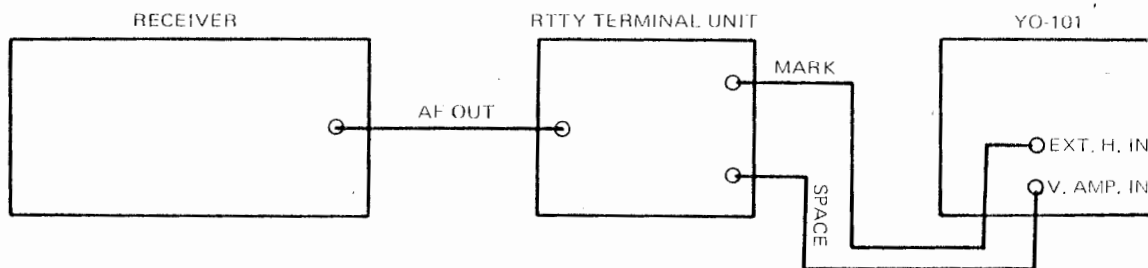

Figure 7
- (1) Connect a shielded cable from the mark terminal of the RTTY terminal unit to the EXT. H. IN (RTTY) jack, and a second cable from the space terminal to the V. AMP IN jack of the Monitor-scope, as illustrated in Figure 7.
- (2) Set the front panel controls as described in previous sections. Then set the V. AMP INPUT switch to V. AMP, and set the SWEEP FREQ switch to the EXT. II (RTTY) position. Make sure that the INTENSITY control is set as low as possible, to protect the screen when no signal is applied to the Monitor-scope.
- (3) The mark and space output of the terminal unit should be adjusted for an equal output when the receiver is properly tuned in. To check the equal output, insert the mark and space signal alternately into the vertical input of the scope and adjust the balance potentiometer of the scope and adjust the balance potentiometer of the terminal unit until equal height is obtained.
- (4) After the balance potentiometer for equal output as described above, adjust the V. GAIN and H. GAIN controls for a cross pattern of equal length of horizontal and vertical trace. Once the desired pattern has been set, the gain controls on the Monitor-scope should be changed.